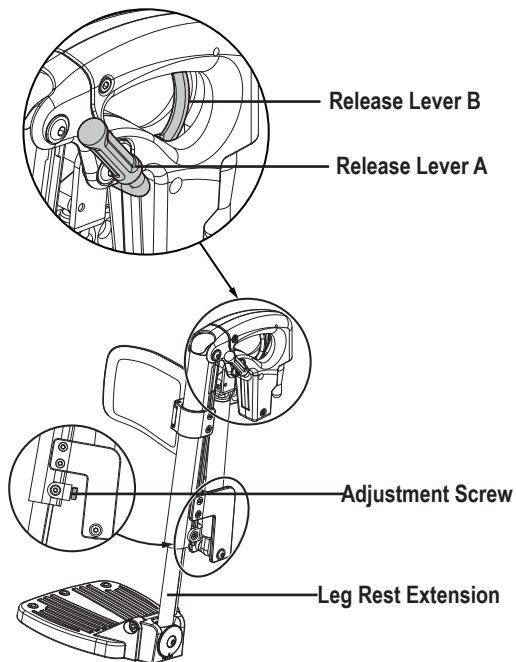

Figure 8. Mid Pivot Elevating Leg Rests
1. Loosen the adjustment screw until it disengages the leg rest extension bar. **See figure 8.**